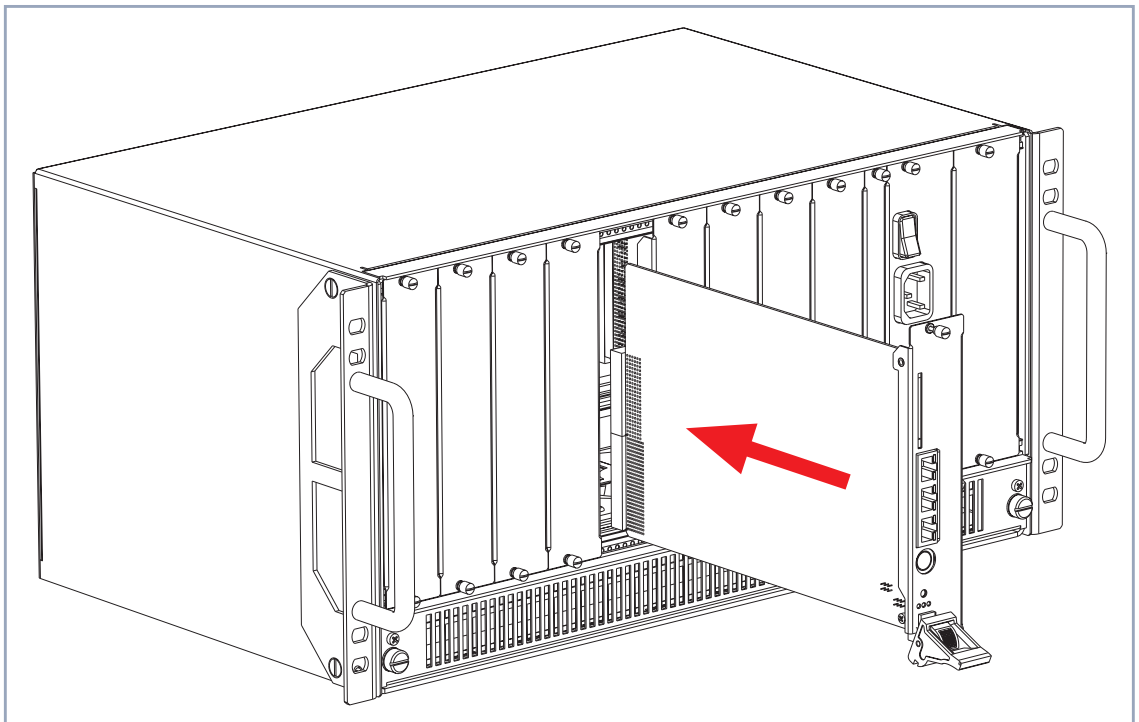

Figure 4-4: Inserting an expansion card
- Push the expansion card further until it reaches the slot connector (see figure 4-4, page 37).